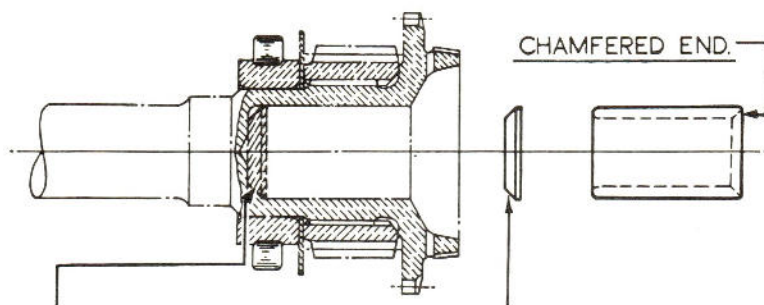

Fig. 52 Positioning the thrust button and bush in the constant pinion shaft.
12. Fit the constant pinion shaft complete with inner race, oil thrower, constant pinion, bush and thrust button. Ensure that thrust button does not turn over in its housing whilst being assembled. Position for re-assembly of bush and thrust button is shown in Fig. 52.